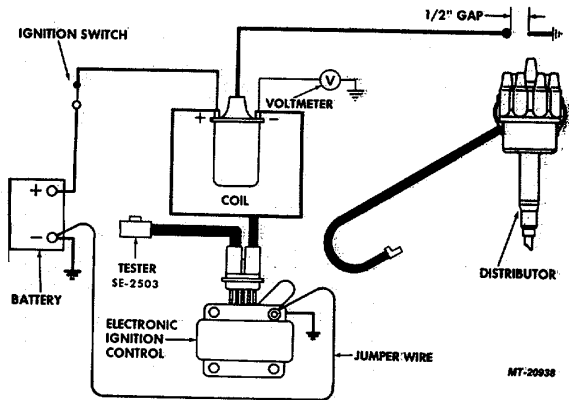

Fig. 8b
(2) If voltmeter reading of 12 to 13 volts is obtained at both connector terminals, per (1) above, reconnect wiring harness to control unit. Reconnect voltmeter from coil negative (-) terminal to ground. (Voltage will still be above 8 volts with ignition switch "ON.") Connect a jumper wire from electronic control ground lead to battery negative terminal (see Fig. 8b).